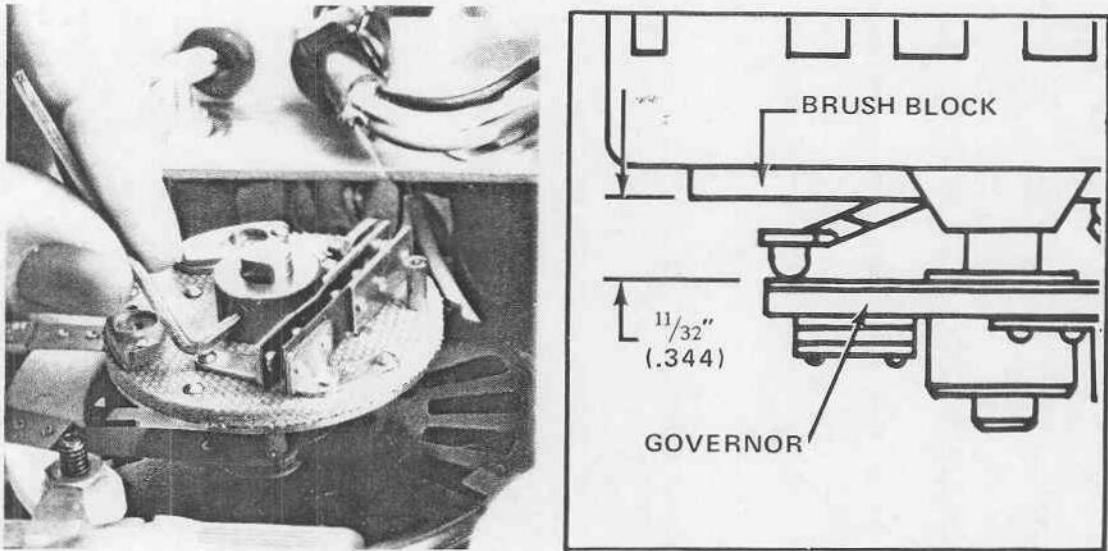

Figure 14. Loosening Governor Assembly (left) for Clearance Adjustment.
C. REPLACING GOVERNOR BRUSHES (see Figure 14)
3. Check and adjust governor for $\frac{11}{32}$ " clearance between brush block plate surface and governor slip rings (see Figure 14).
4. To adjust clearance, loosen set screw which secures governor assembly to motor shaft as shown in Figure 14; adjust governor for $\frac{11}{32}$ " clearance and retighten set screw.
2. Referring to Figure 14, remove the Governor by loosening the set screw; remove the Governor Brush Block as described in C-1, above. To replace the motor, proceed to step 3.